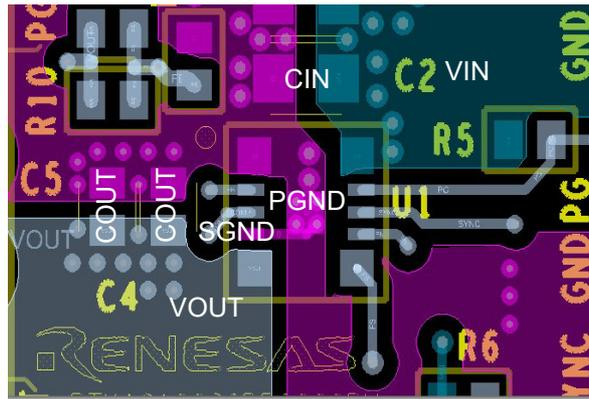
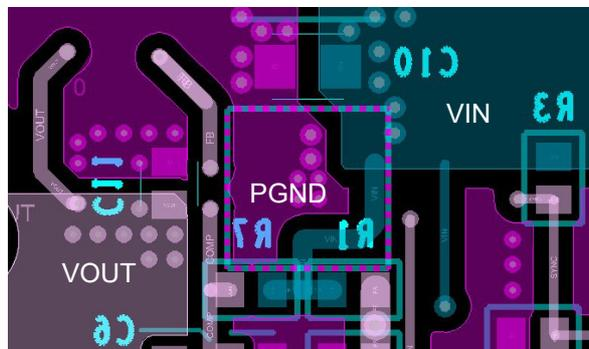

Figure 4. Layout Example - Top Layer
Figure 5. Layout Example - Bottom Layer
- Place the input ceramic capacitors as close as possible to the module input. These ceramic capacitors minimize the high frequency noise by reducing the parasitic inductance of the power loop. Proper placement of these capacitors not only leads to less PHASE node spikes and ringing, but also minimizes the switching noise coupled to the module. Renesas recommends using dielectric X5R or better with a minimum total capacitance of 22 μ F at the module input. A layout example is shown in Figure 4 and Figure 5.